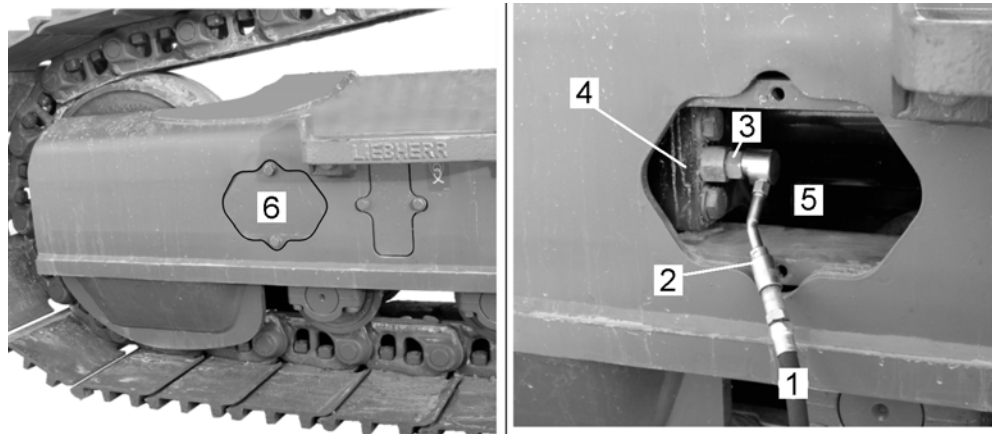

Fig. 5-72 Retensioning the track
- ▶ Carefully unscrew lubricating nipple **3** (see Fig. 5-72) by several thread pitches until the grease escapes out of the releasing groove of the nipple.